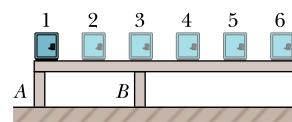

Figure 12.2 Question 2.
- 2 In Fig. 12.2, a rigid beam is attached to two posts that are fastened to a floor. A small but heavy safe is placed at the six positions indicated, in turn. Assume that the mass of the beam is negligible